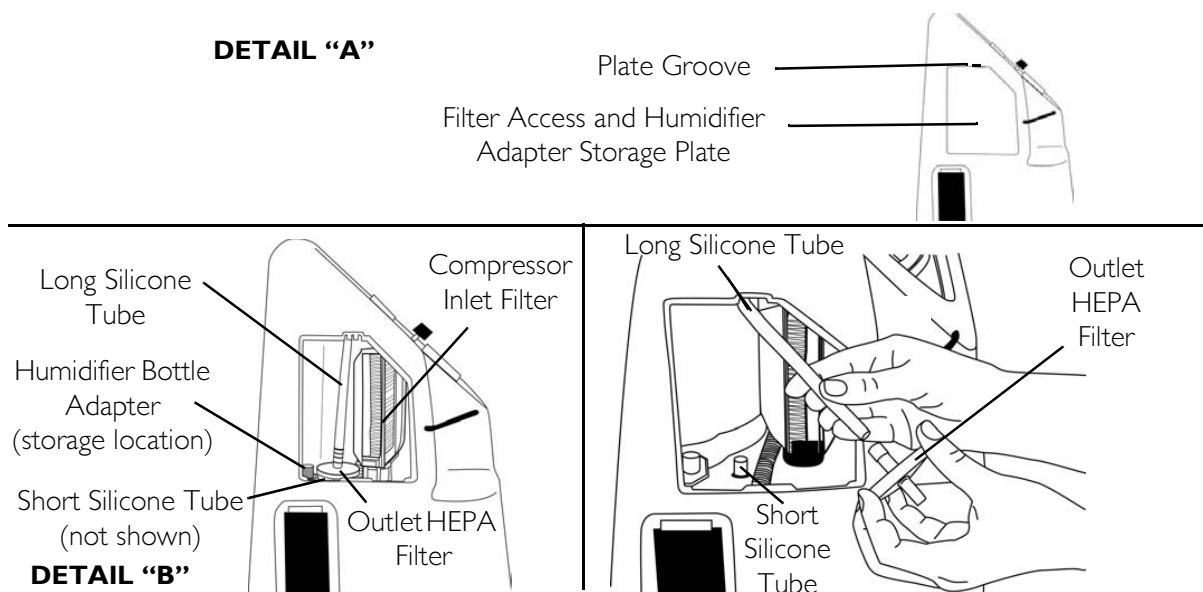
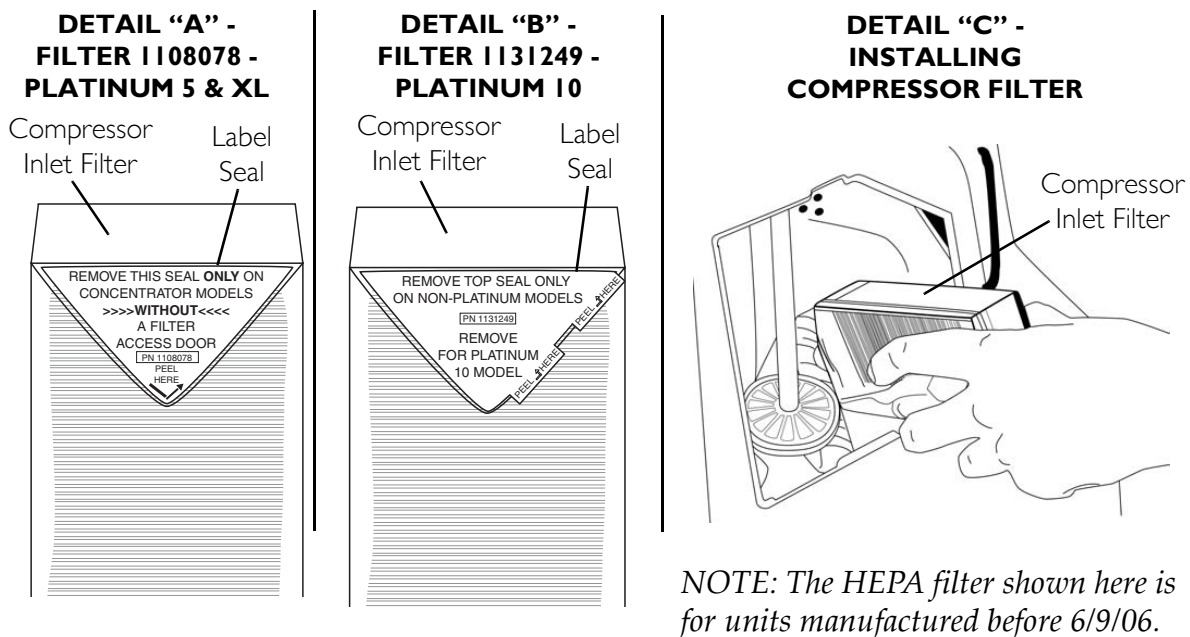

FIGURE 6.2 Replace the Outlet HEPA Filter before 06/09/06
FIGURE 6.4 Replacing the Compressor Inlet Filter
NOTE: For this procedure, refer to FIGURE 6.2.
NOTE: For this procedure, refer to FIGURE 6.2 on page 27 and FIGURE 6.4.
3. Insert a flathead screwdriver in the plate groove on the top edge of the plate and gently pry the humidifier adapter storage plate open to remove the plate. Refer to Detail "A" in FIGURE 6.2.
- For Platinum 5 and XL: Leave the entire label on p/n 1108078 (Detail “A” of FIGURE 6.4).
- For Platinum 10: Remove the lower half of the label on p/n 1131249 (Detail “B” of FIGURE 6.4).
8. Install new compressor inlet filter by inserting the filter opening into the rubber base (Detail “C” of FIGURE 6.4).